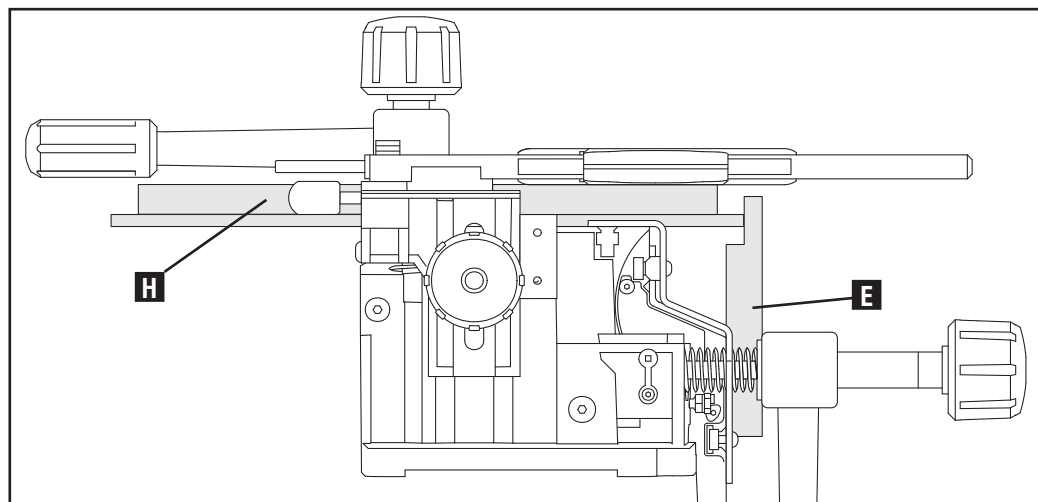

Fig. G5
2. Mount rabbeted setup block (E) Fig. G5, vertically with the rabbeted edge facing the horizontal workpiece.
3. Bring the pinboard (H) forward so it just touches the setup block (E).
4. Remove setup block (E).